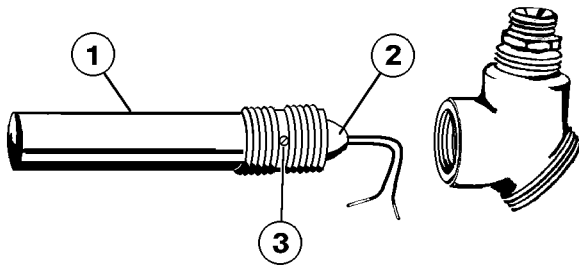

FIGURE 7-3. HEATER ELEMENT REMOVAL
6. Loosen setscrew (3, Figure 7-3) and remove heater element (2) from element cover (1).
1. Install new heater element (2) and secure it in place with setscrew (3, Figure 7-3).